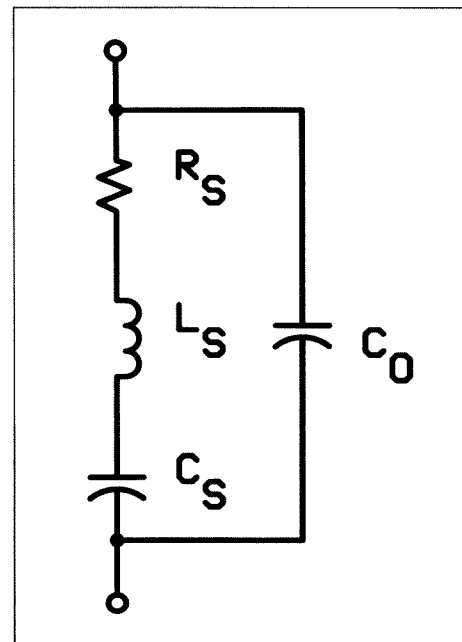

Figure 1. Series resonant crystal model.
A narrow band notch of attenuation can be created by taking advantage of the crystal's series resonance. At resonance the reactance of C_s and L_s in Figure 1 is equal and creates a minimum impedance that is represented by R_s . C_o represents the capacitance of the case in which the crystal is mounted (1). A crystal placed from a 50 ohm node in shunt to ground would appear as a parallel impedance of R_s at the resonant frequency of crystal. If the value of R_s is relatively small compared to 50 ohms,